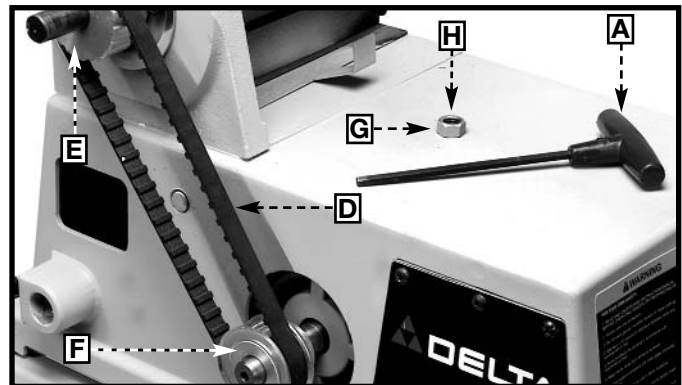

Fig. 7
NOTE: The drive belt (D) Fig. 7 should be firm, but not too tight on the pulleys (E and F) and should have approximately 1/4" to 1/2" deflection in the belt at the center (E and F) when using light finger pressure. The drive belt does not require excessive tension to function properly.
To adjust the belt tension, loosen the locknut (G) Fig. 7. Use the wrench (A) to tighten or loosen the adjustment screw (H). When the adjustment is correct, tighten the locknut (G). After the drive belt (D) Fig. 7 has proper tension, move the sanding arm to the horizontal position.